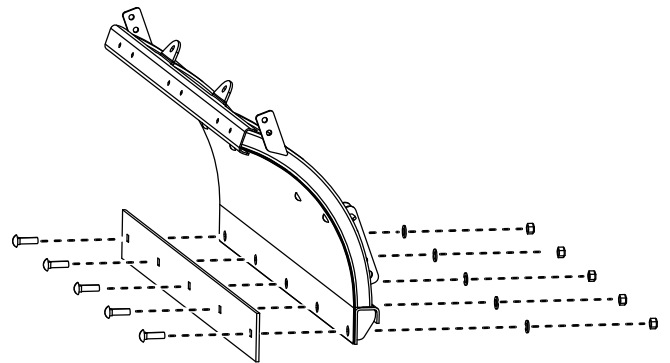

Figure 53
1. Remove and retain the bolts and locknuts securing the cutting edge to the blade (Figure 53).